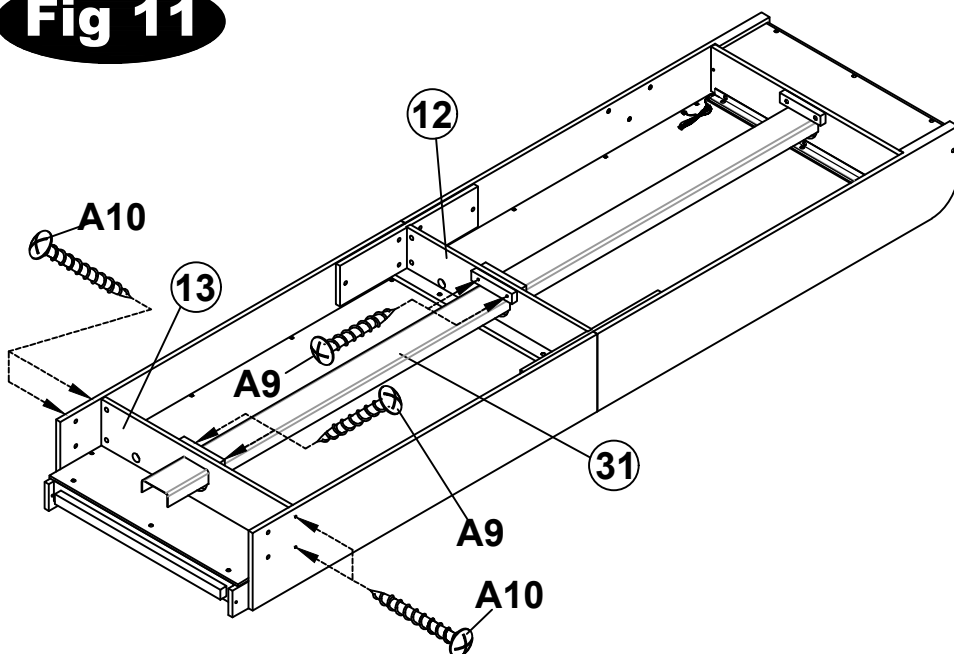

Fig 11
18. Attach the Reflux Tank(#31) to the Frame (#12 & #13) using four Screws(A9) as shown FIG.11.
19. Attach the Frame-C(#13) to the Side Panels using four Screws(A10)as shown FIG.11.